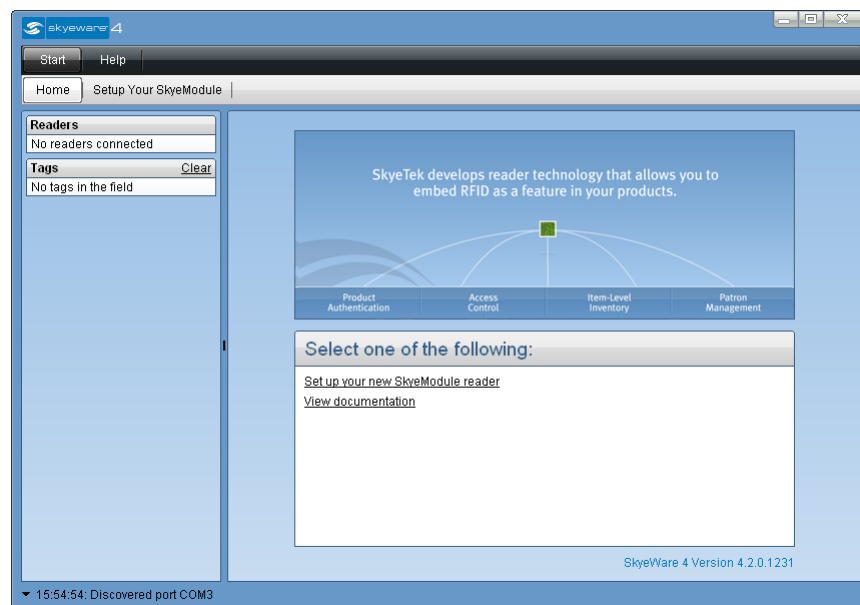

Figure 2-1 SkyeWare 4 Home Screen
1. Start SkyeWare 4 after the installation wizard finishes. This displays the home screen (Figure 2-1).